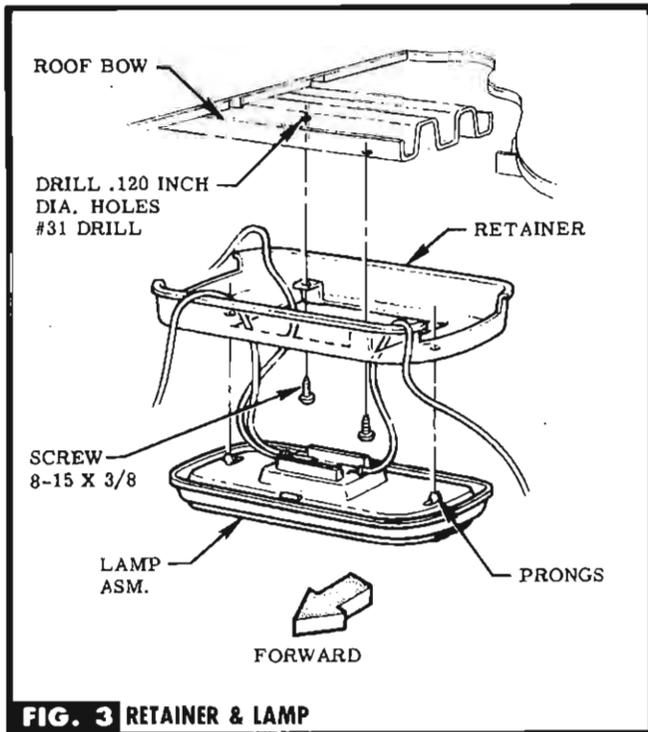

FIG. 3 RETAINER & LAMP
STEP 7 POSITION RETAINER ON CENTER OF REAR ROOF BOW & USE IT AS A TEMPLATE TO DRILL HOLES. SEE FIG. 3. **CAUTION** Do not drill thru roof panel.
STEP 8 PASS LAMP ASM. THRU RETAINER & ATTACH RETAINER TO BOW WITH SCREWS. SEE FIG. 3.
STEP 9 DRAW LAMP ASM. UP TO RETAINER BY PULLING OUT WIRE LEADS THEN PRESS LAMP ASM. TO RETAINER UNTIL PRONGS SNAP INTO PLACE. SEE FIG. 3.